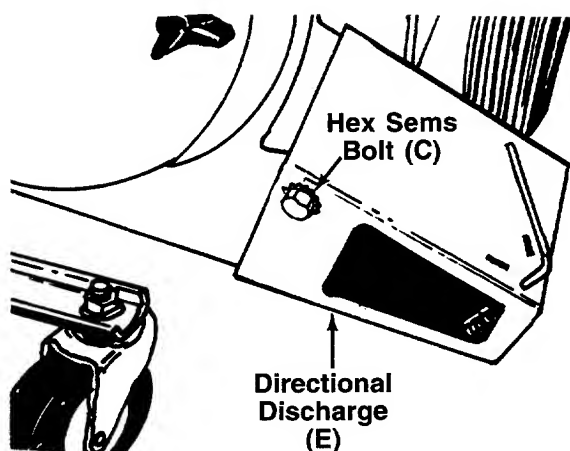

FIGURE 4.
Slip end of directional discharge (E) over chute opening. Secure in position with hex sems bolts (C). See ← figure 4.